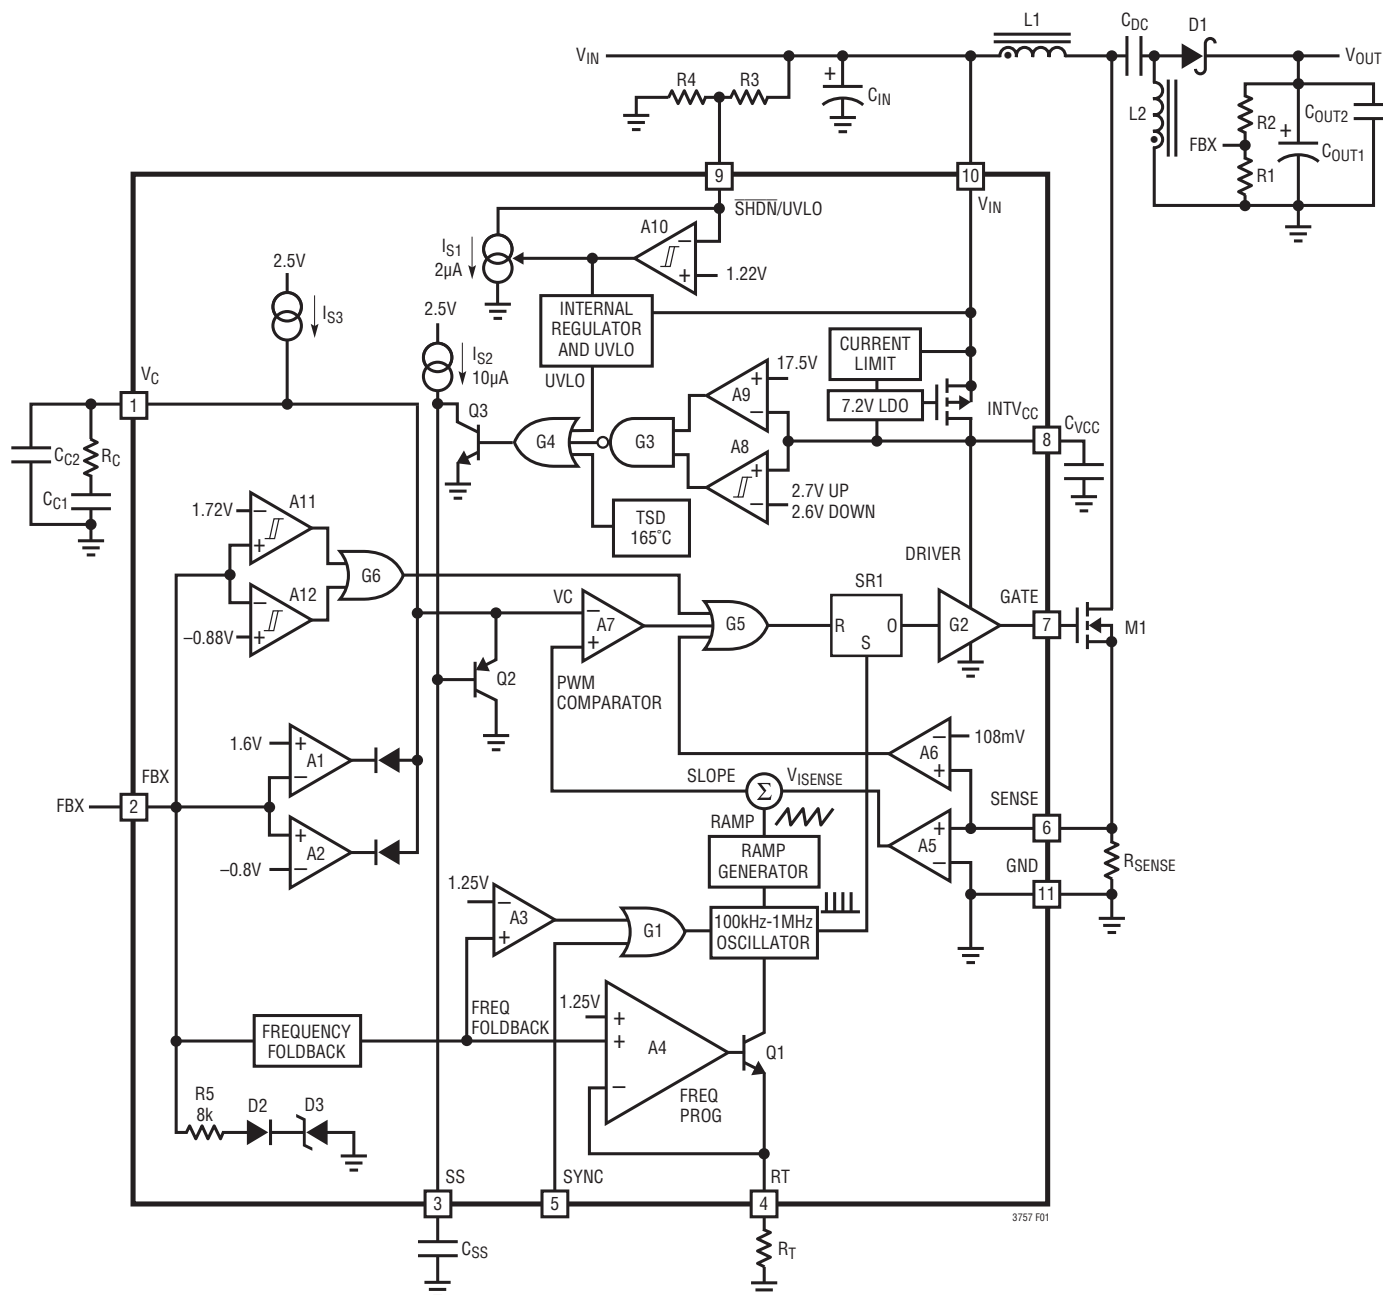

Figure 1. LT3757 Block Diagram Working as a SEPIC Converter
The LT3757 uses a fixed frequency, current mode control scheme to provide excellent line and load regulation. Operation can be best understood by referring to the Block Diagram in Figure 1.
The LT3757 is capable of generating either positive or negative output voltage with a single FBX pin. It can be configured as a boost, flyback or SEPIC converter to generate positive output voltage, or as an inverting converter to generate negative output voltage. When configured as a SEPIC converter, as shown in Figure 1, the FBX pin is pulled up to the internal bias voltage of 1.6V by a voltage divider ($R1$ and $R2$) connected from V_{OUT} to GND. Comparator A2 becomes inactive and comparator A1 performs the inverting amplification from FBX to V_C . When the LT3757 is in an inverting configuration, the FBX pin is pulled down to -0.8V by a voltage divider connected from V_{OUT} to GND. Comparator A1 becomes inactive and comparator A2 performs the noninverting amplification from FBX to V_C .
The purpose of this current is to allow the user to program the rising hysteresis. The Block Diagram of the comparator and the external resistors is shown in Figure 1. The typical falling threshold voltage and rising threshold voltage can be calculated by the following equations:
An internal, low dropout (LDO) voltage regulator produces the 7.2V INTV_{CC} supply which powers the gate driver, as shown in Figure 1. If a low input voltage operation is expected (e.g., supplying power from a lithium-ion battery or a 3.3V logic supply), low threshold MOSFETs should be used. The LT3757 contains an undervoltage lockout comparator A8 and an overvoltage lockout comparator A9 for the INTV_{CC} supply. The INTV_{CC} undervoltage (UV) threshold is 2.7V (typical), with 100mV hysteresis, to ensure that the MOSFETs have sufficient gate drive voltage before turning on. The logic circuitry within the LT3757 is also powered from the internal INTV_{CC} supply.
The choice of operating frequency may be determined by on-chip power dissipation, otherwise it is a trade-off between efficiency and component size. Low frequency operation improves efficiency by reducing gate drive current and MOSFET and diode switching losses. However, lower frequency operation requires a physically larger inductor. Switching frequency also has implications for loop compensation. The LT3757 uses a constant-frequency architecture that can be programmed over a 100kHz to 1000kHz range with a single external resistor from the RT pin to ground, as shown in Figure 1. The RT pin must have an external resistor to GND for proper operation of the LT3757. A table for selecting the value of R_T for a given operating frequency is shown in Table 1.
The output voltage (V_{OUT}) is set by a resistor divider, as shown in Figure 1. The positive and negative V_{OUT} are set by the following equations:
In the applications where V_{OUT} is pulled up by an external positive power supply, the FBX pin is also pulled up through the R2 and R1 network. Make sure the FBX does not exceed its absolute maximum rating (6V). The R5, D2, and D3 in Figure 1 provide a resistive clamp in the positive direction. To ensure FBX is lower than 6V, choose sufficiently large R1 and R2 to meet the following condition:
The LT3757 addresses this mechanism with the SS pin. As shown in Figure 1, the SS pin reduces the power MOSFET current by pulling down the V_C pin through Q2. In this way the SS allows the output capacitor to charge gradually toward its final value while limiting the start-up peak currents. The typical start-up waveforms are shown in the Typical Performance Characteristics section. The inductor current I_L slewing rate is limited by the soft-start function.
The optimum values depend on the converter topology, the component values and the operating conditions (including the input voltage, load current, etc.). To compensate the feedback loop of the LT3757/LT3757A, a series resistor-capacitor network is usually connected from the V_C pin to GND. Figure 1 shows the typical V_C compensation network. For most applications, the capacitor should be in the range of 470pF to 22nF, and the resistor should be in the range of 5k to 50k. A small capacitor is often connected in parallel with the RC compensation network to attenuate the V_C voltage ripple induced from the output voltage ripple through the internal error amplifier. The parallel capacitor usually ranges in value from 10pF to 100pF. A practical approach to design the compensation network is to start with one of the circuits in this data sheet that is similar to your application, and tune the compensation network to optimize the performance. Stability should then be checked across all operating conditions, including load current, input voltage and temperature.